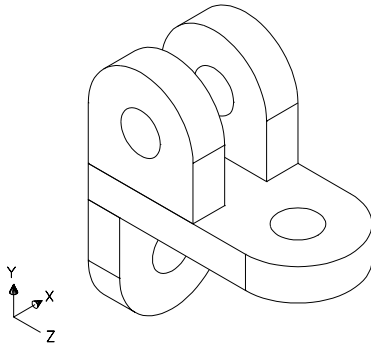

Figure 27-23 Model after creating the next object and moving it
10. Create the object by using the **REGION**, **SUBTRACT**, and **EXTRUDE** commands. The resulting object is shown in Figure 27-23.